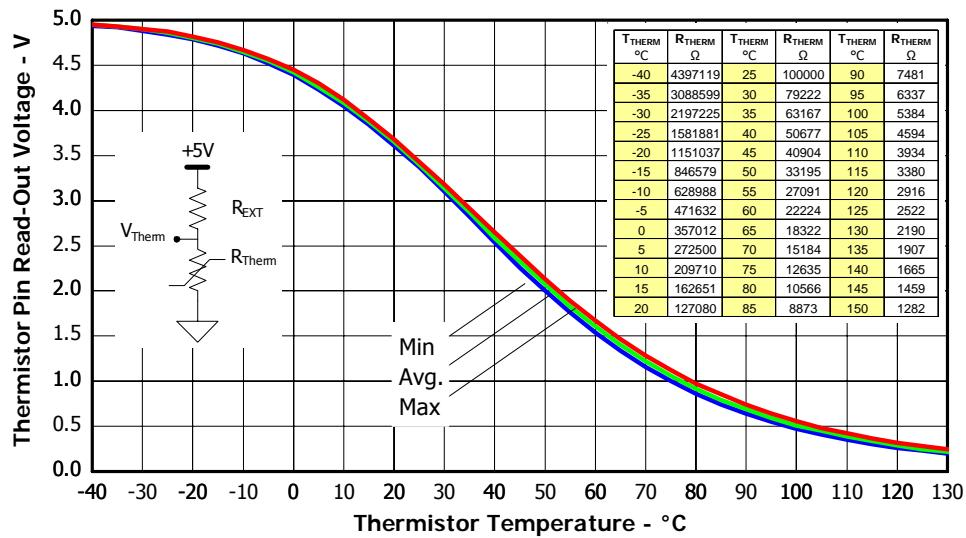

Figure 9. Thermistor Readout vs. Temperature (47kohm pull-up resistor, 5V) and Nominal Thermistor Resistance values vs. Temperature Table.
3. Value of the boot-strap capacitors depends upon the switching frequency. Their selection should be made based on IR design tip DN 98-2a, application note AN-1044 or Figure 9. Bootstrap capacitor value must be selected to limit the power dissipation of the internal resistor in series with the V_{CC}. (see maximum ratings Table on page 3).